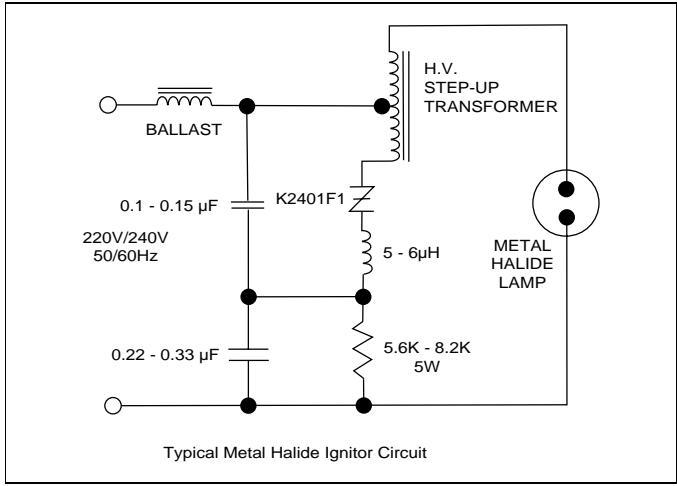

Figure 9.3 Typical Metal Halide Ignitor Circuit
- Teccor's new, improved series of sidacs is designed to ensure good commutation at higher switching frequencies as required in ignitor circuits for high intensity discharge (HID) lighting. A typical circuit for a metal halide lamp ignitor is shown in the schematic, Figure 9.3. With proper component selection this circuit will produce three pulses for ignition of Osram lamp types such as HQI-T70W, HQI-T150W, and HQI-T250W which require a minimum of three pulses at 4kV magnitude and $>1\mu s$ duration each at a minimum repetition rate of 3.3kHz.